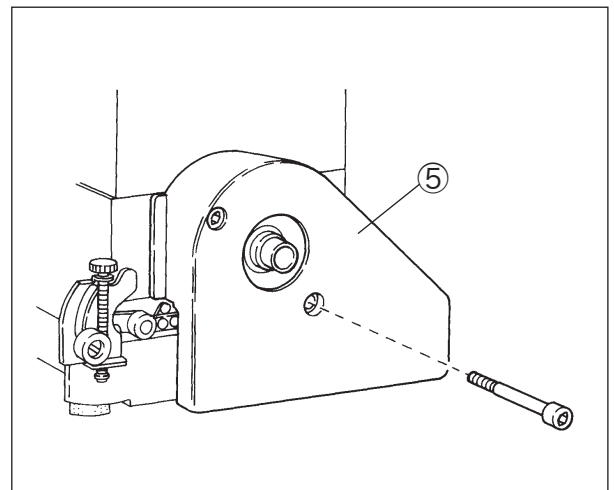
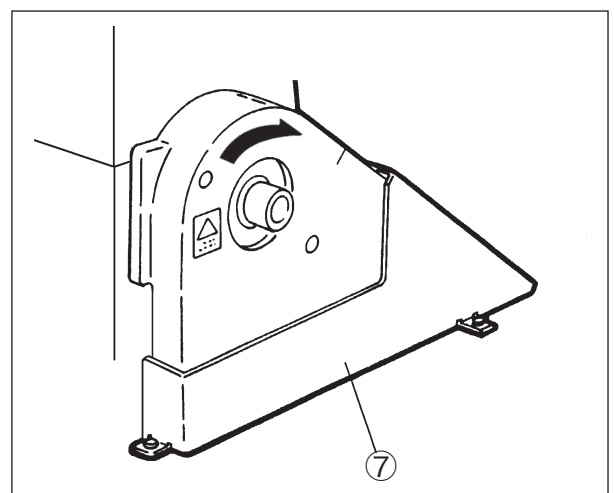

Fig. 2-7
Fig. 2-9
- (1) Install the belt cover ⑤. (Fig. 2-7)
- (2) Push the belt cover support ⑥ to the belt cover ⑤ to install it.
- (3) Fix the belt cover(lower) ⑦ on the machine table. (Fig. 2-9)